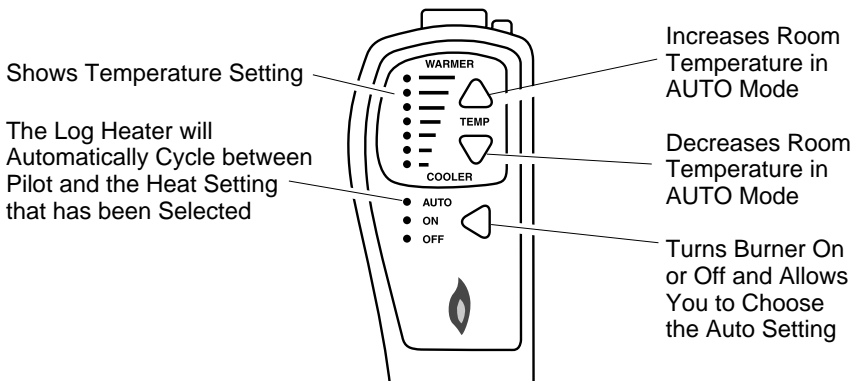

Figure 21 - Thermostat Hand-Held Remote Control Unit Selections (GHRCT Series Only)
- 2b. Press the AUTO/ON/OFF button on the hand-held remote control (see Figure 21, page 17). The lights to the left of the button will show AUTO, ON, or OFF.